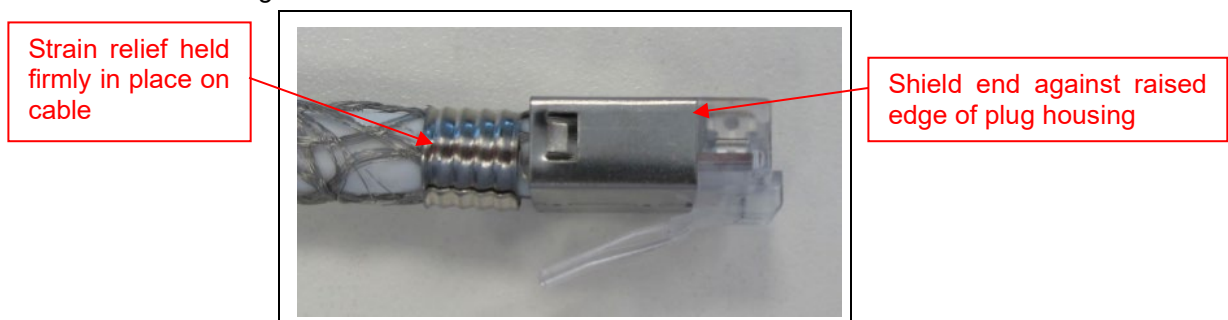

Figure 10. Shield Against Raised End of Housing
2. Slide the plug shield over the plug subassembly until it seats against the front edge of recessed area around the outside of the plug housing. See Figure 10.
4. The shield end must be against the raised edge of the housing. The strain relief end must be held firmly in place on the cable. See Figure 10.